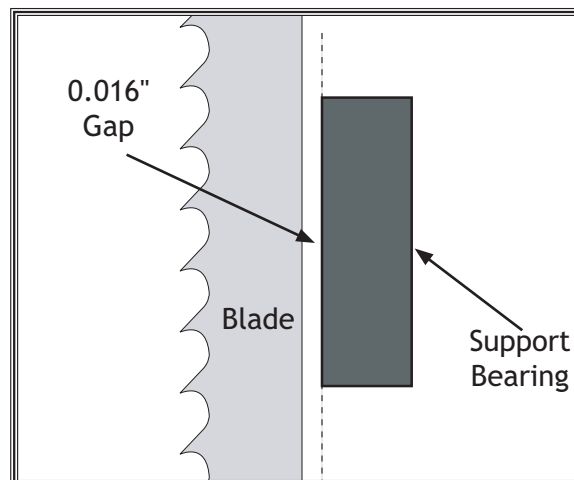

Figure 33. Blade aligned approximately 0.016" away from the bearing edge.
5. Place a 0.016" feeler gauge between the support bearing and the blade, and position the bearing 0.016" away from the back of the blade as illustrated in **Figure 33**.
3. Place a 0.016" feeler gauge between the support bearing and the blade, position the bearing 0.016" away from the back of the blade (**Figure 33**), and tighten the set screw.